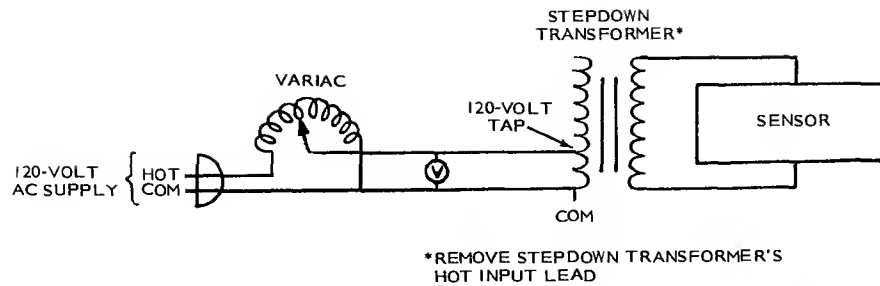

FIGURE 18. CONNECTION OF VARIAC TO STEPDOWN TRANSFORMER
12. If available, connect an Onan Multi-Tester to the transformer terminal strip and to the wire lead removed in Step 11 (using the instructions with the Multi-Tester). If using a variac, connect its common output lead to transformer T2-1 (com) and its other output lead to transformer terminal 2 (120-volt connection). See Figure 18.
Multi-Tester. If using a variac, connect its common output lead to transformer T2-1 (com) and its other output lead to terminal 2 (120-volt connection). See Figure 18.